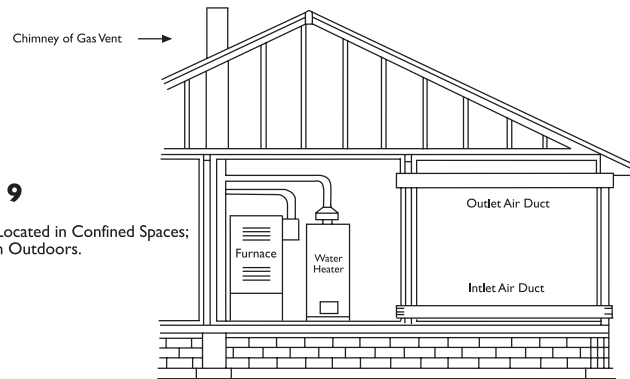

Figure 9
I. When communicating with the outdoors through horizontal ducts, each duct opening shall have a minimum free area of 1 square inch per 2,000 BTU per hour of total input rating of all equipment in the enclosure. (figure9)